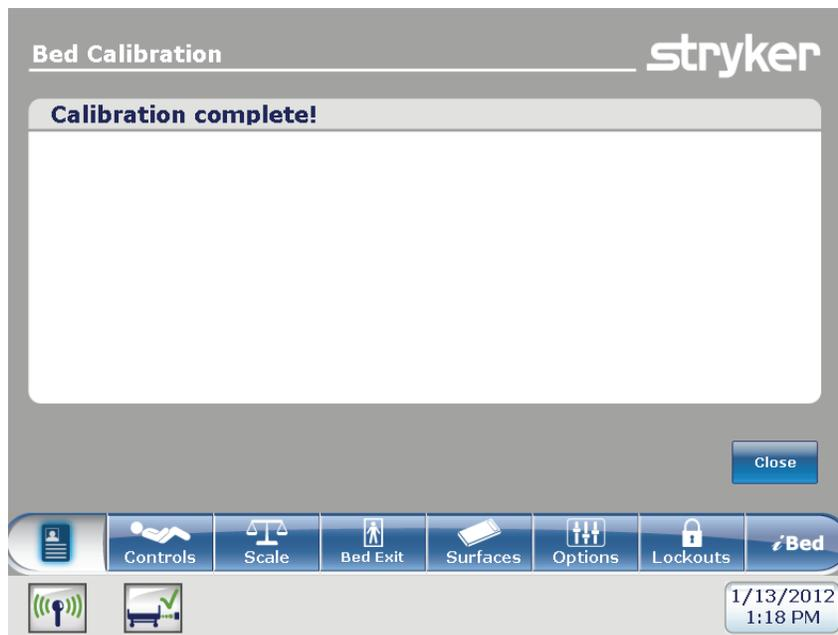

Figure 21 – Calibration complete
31. The calibration procedure is completed screen appears (Figure 21).